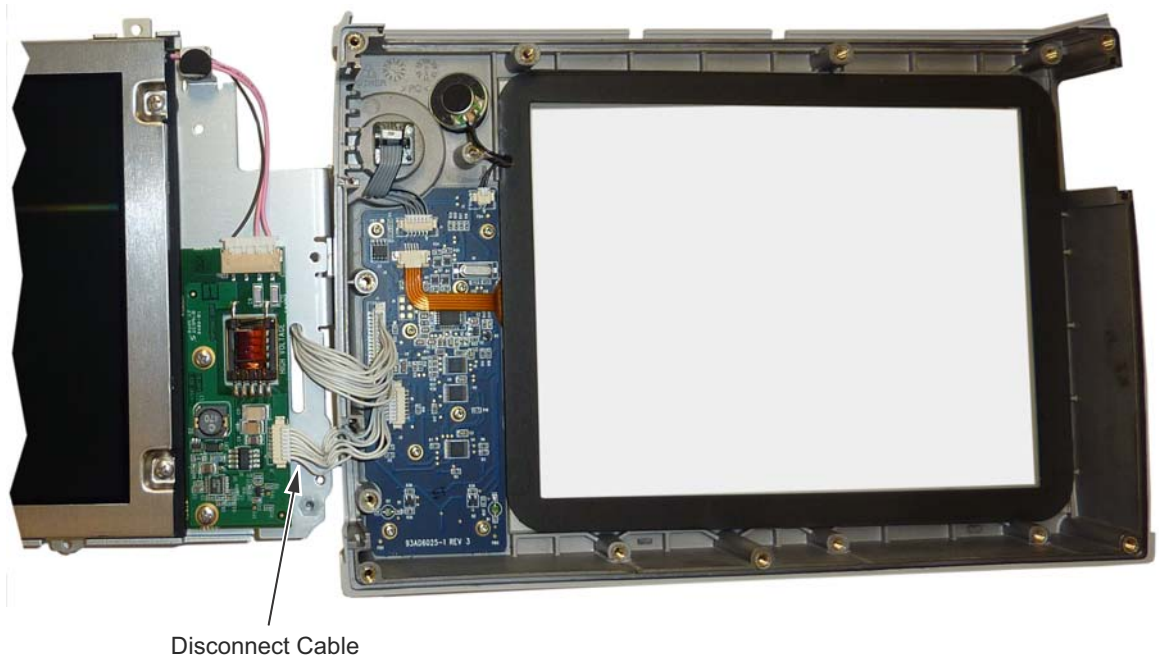

Figure 7-14. Replacing the LCD Assembly
4. Turn the LCD assembly over and disconnect the front half of the case from the LCD Assembly (Figure 7-14).